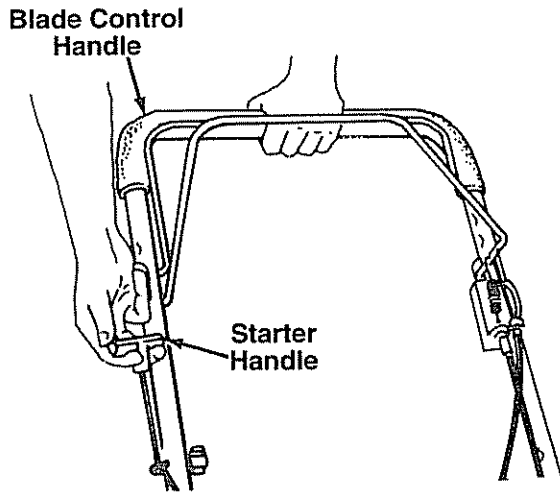

FIGURE 10.
- Hold blade control handle against upper handle. See figure 10. Grasp starter handle and pull rope out slowly until engine reaches start of compression cycle (rope will pull slightly harder at this point). Let the rope rewind slowly.